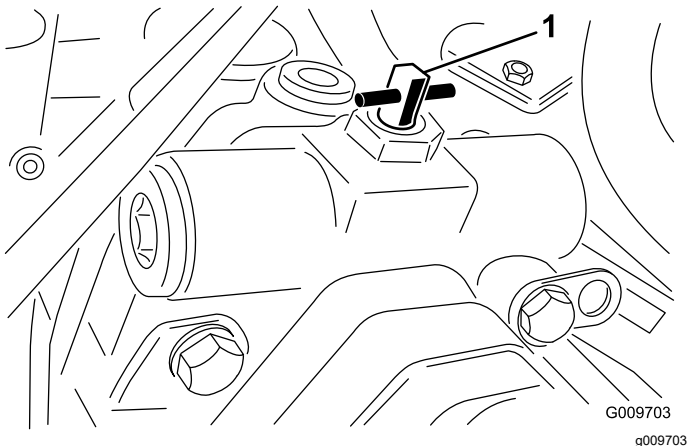

Figure 77
3. Rotate the bypass valve 90° (1/4 turn) in either direction to open it and allow fluid to bypass internally (Figure 77).
2. Rotate the bypass valve 90° (1/4 turn) in either direction to open it and allow fluid to bypass internally (Figure 77).